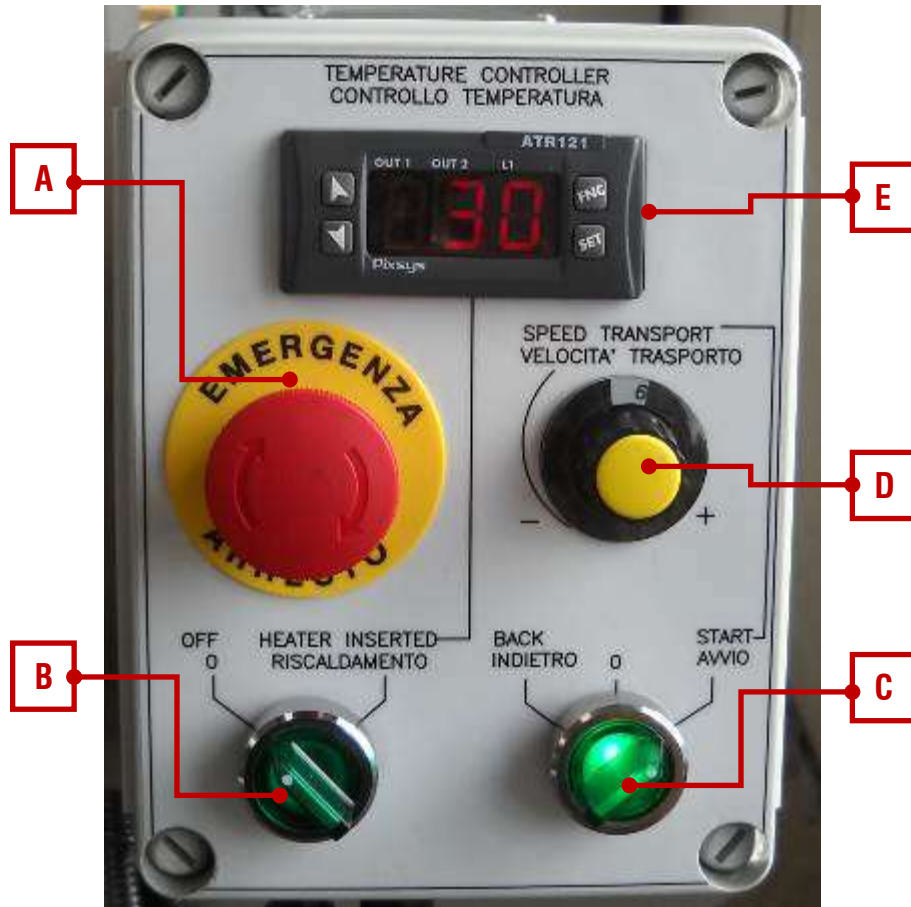

FIG. 1 – Operating control panel
The uncapping device is provided with two control panels, the main control unit (fig.2) is placed on the right side of the machine, the operating panel (fig.1) is placed in the front position, convenient for the operator.
Make sure that the mushroom-head emergency button (fig. 1-A) and the switch on the main control panel (fig. 2-F) have not been operated, then turn the main switch (fig. 2 - G) to '0'.
Set the thermostat (fig. 1-E) as illustrated in paragraph '2.1 Instructions for thermoregulator use' of this manual.
Control knife heating by actuating the selector switch 'Heating' (fig. 1 - B) then wait a few seconds to allow the knives to heat up to the pre-set temperature.
Turn the selector switch (Fig. 1-C) to the right, in its 'Start' position, to control the forward movement of the chain and the knives.
If a frame gets stuck, turn the selector switch (fig. 1 - C) to a central position to stop the chain.
It is possible to rotate the chain in the opposite direction, by rotating the selector switch (fig. 1-C) to the left, for pulse operation.
**In case of danger, hit the emergency button (fig. 1 item A or fig. 2 item F).